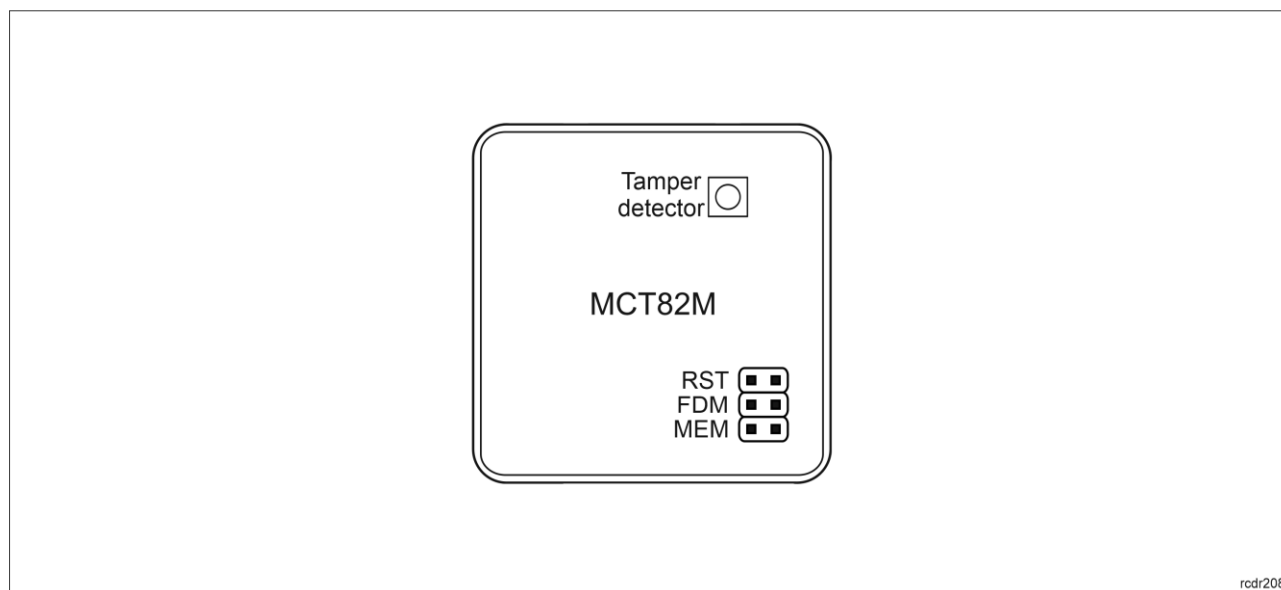

Fig. 4 Internal side of the front panel
Built-in tamper (sabotage) detector enables detection of unauthorized opening of device's enclosure as well as detachment of the enclosure from wall. The detector is internally connected to the terminal's input. It does not require low level configuration or any additional installation arrangements but it is essential to mount front panel in such way as the tamper detector (fig 4) would firmly press the back panel. The detector requires high level configuration which consists in assignment of the function [133] *Tamper Toggle* on the level of a *Main Board* of a controller in VISO software navigation tree.
- Front panel should be attached in such way as the tamper detector (fig. 4) would firmly press the back panel.
In RACS 5 v2 system the reader can be installed at site without previous configuration. According to AN006 application note, its address and other settings can be configured from VISO v2 management software and during such configuration the access to its service contacts (fig. 4) is not required.
2. Remove jumper from MEM contacts (fig. 4) if it is placed there.
2. Place jumper on MEM contacts (fig. 4).